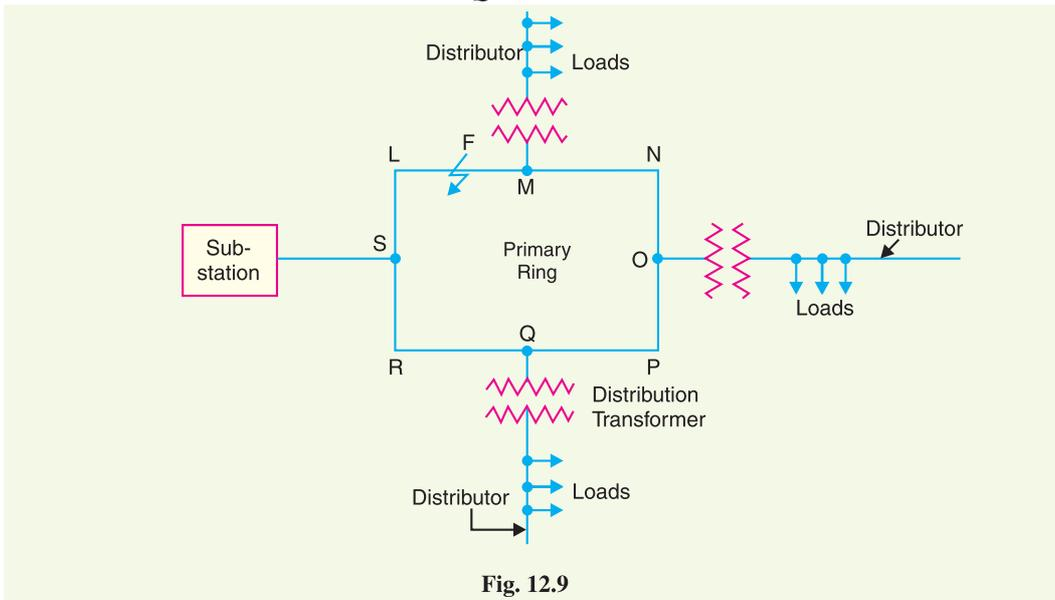

Fig. 12.9
- (ii) **Ring main system.** In this system, the primaries of distribution transformers form a loop. The loop circuit starts from the substation bus-bars, makes a loop through the area to be served, and returns to the substation. Fig. 12.9 shows the single line diagram of ring main system for a.c. distribution where substation supplies to the closed feeder LMNOPQRS. The distributors are tapped from different points  $M$ ,  $O$  and  $Q$  of the feeder through distribution transformers. The ring main system has the following advantages :